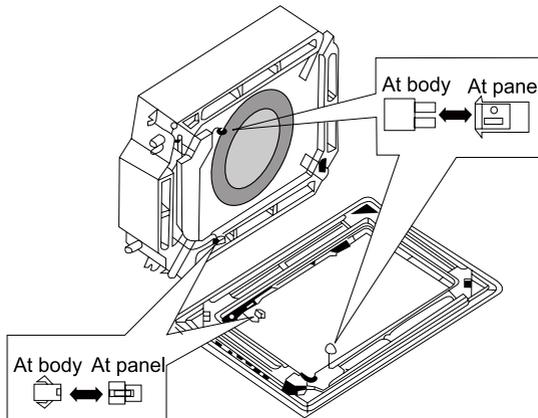

Fig.36
- (4). Wire the swing flap motor as shown in Fig.36.